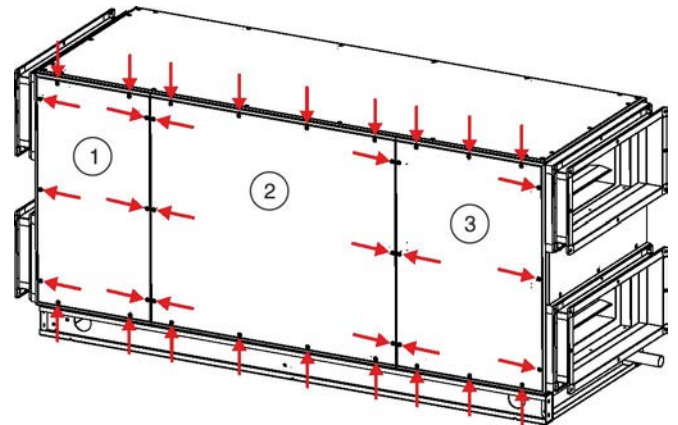

Fig. 55: Inspection access panels at the rear
- ▶ Loosen the screws (Fig. 55/arrows) of the three inspection access panels at the rear (Fig. 55/1+2+3).
- ▶ Remove the three inspection access panels (Fig. 55/1+2+3).